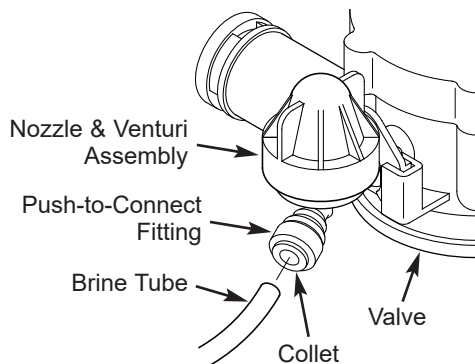
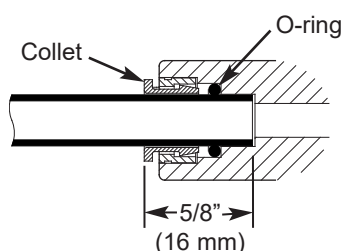

FIG. 11
FIG. 13
- c. Connect tube by inserting end into push-to-connect fitting on the valve's nozzle & venturi assembly (See Fig. 11). Push it until at least 5/8" (16 mm) of tube is inserted (See Fig. 13).